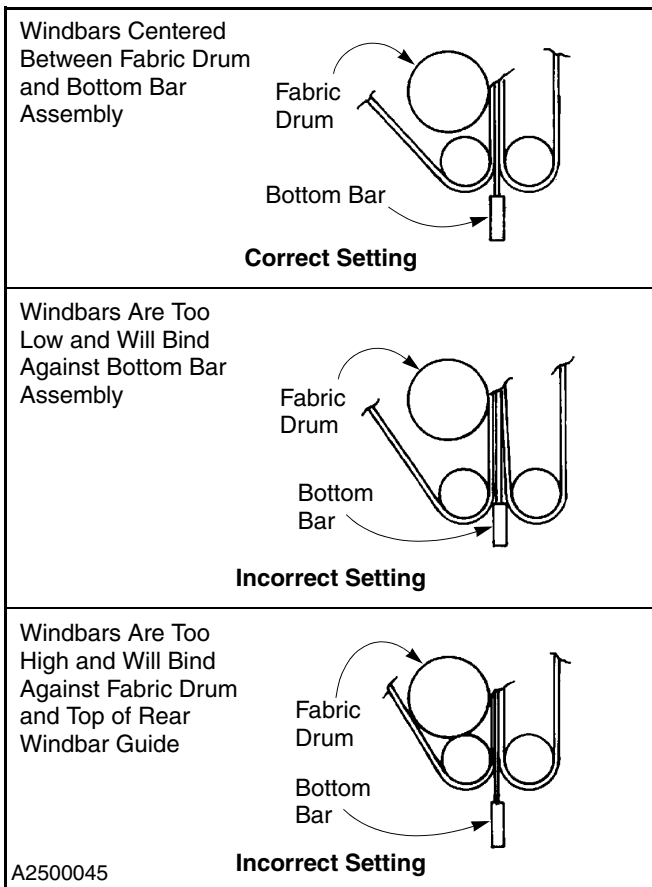

Figure 36
3. Inspect all strapped windbars (if installed). A front, strapped windbar should fall between the bottom of the fabric drum and the top of the bottom bar. A rear, strapped windbar should fall between the upper end of the rear windbar guide and the top of the bottom bar. (With front and rear windbars installed, once the front windbar is positioned, the rear windbar should fall directly behind it.) (See Figure 36.)